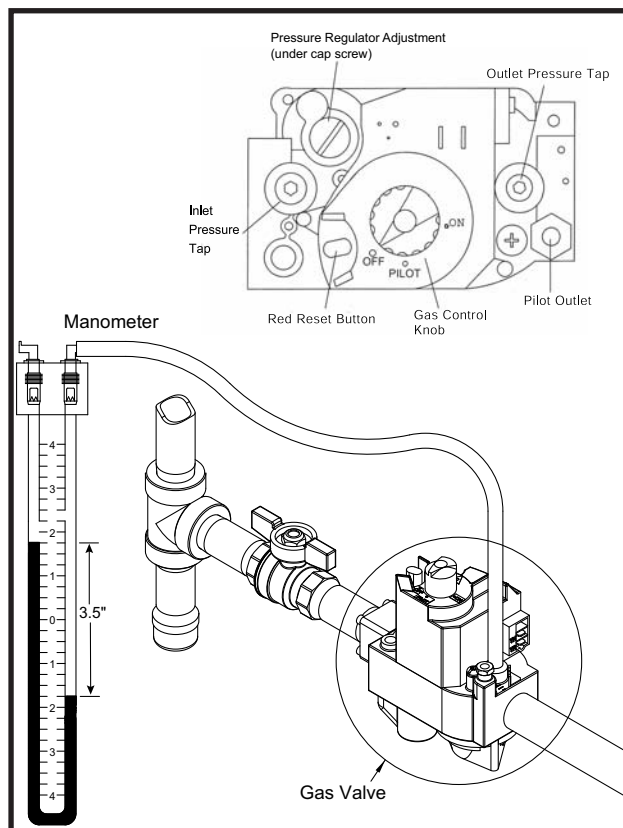

FIG. 18 Manifold Pressure Adjustment
- Remove the 1/8" hex plug located on the outlet side of the gas valve and install a fitting suitable to connect to a manometer or magnahelic gauge. See Figure 18. Minimum range of scale should be up to 5" w.c. for Natural gas models and 10" w.c. for L.P. gas models.
- Remove pressure regulator adjustment cap screw on the gas valve. See Figure 18 for location.
5. Remove the 1/8" hex plug, located on the "inlet" side of the gas valve and install a fitting suitable to connect to a manometer or magnahelic gauge. On two gas valve models, remove the hex plug from the gas valve closest to the gas supply connection. Range of scale should be 14" w.c. or greater to check inlet pressure. See Figures 18 and 19 for location.